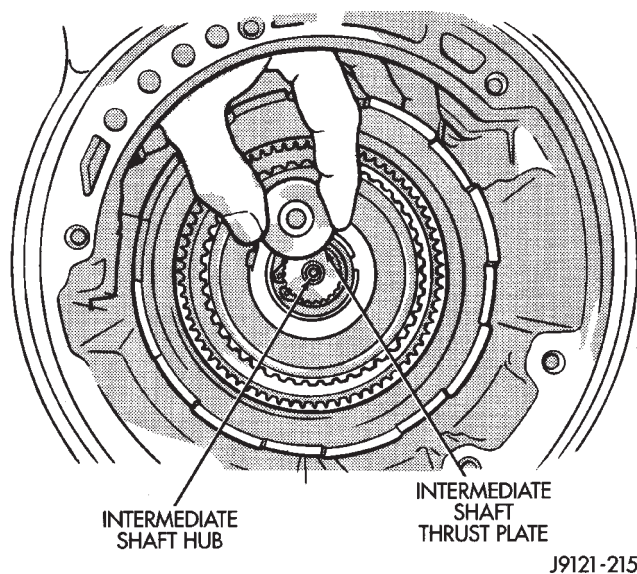

Fig. 142 Removing Intermediate Shaft Thrust Plate
(32) Remove output shaft thrust plate from intermediate shaft hub (Fig. 142).